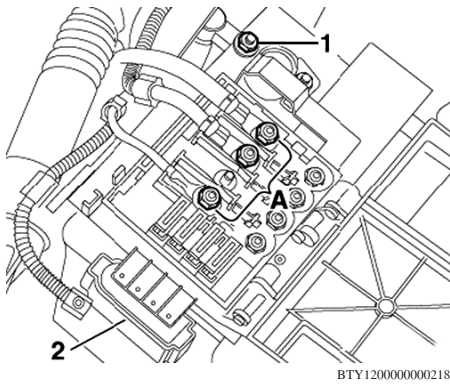

Fig. 3 Fuse panel mounting bolt removal
8. Remove positive bus securing bolt (1) on positive terminal clamp, **Fig. 3**.
9. Remove securing bolts (A) and remove cables to fuses, noting installed positions, **Fig. 3**.
10. Disconnect electrical connection (2), **Fig. 3**.
9. Tighten securing bolt (1) for positive bus on positive terminal clamp, **Fig. 3**.
10. Connect cables to strip fuses, and tighten securing bolts (A), **Fig. 3**.
11. Connect electrical connector (2), **Fig. 3**.